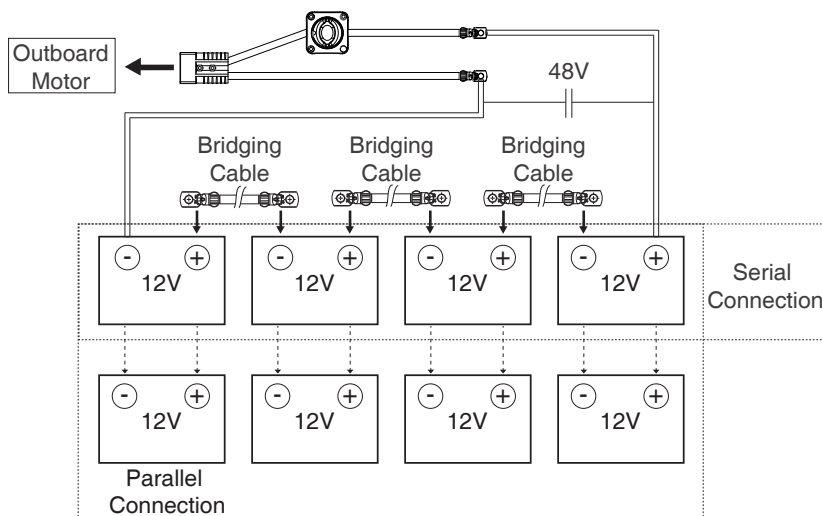

Figure 4-3
When connecting four 12V batteries in series to make a 48V battery set to supply power for Navy 6.0, use bridging cables to connect batteries in series as shown in Figure 4-3. Make sure to connect the main switch cable to battery positive terminal and the other cable to battery negative terminal.
- ⚠️ Never reverse the polarity. Please pay more attention when connecting batteries in series and/or in parallel configuration. Always double check by referring to Figure 4-3.